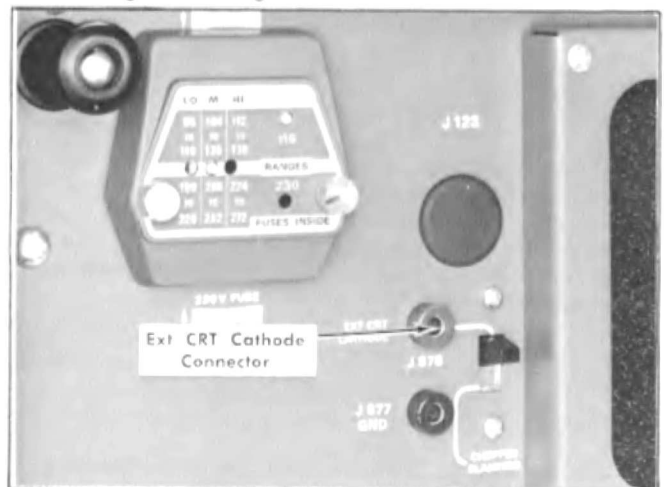

Fig. 6-20. Location of Ext CRT Cathode connector (rear panel)
- b. Connect a second coaxial cable and a BNC to Banana Plug patch cord from the T connector to the EXT CRT CATHODE connector (Fig. 6-20).